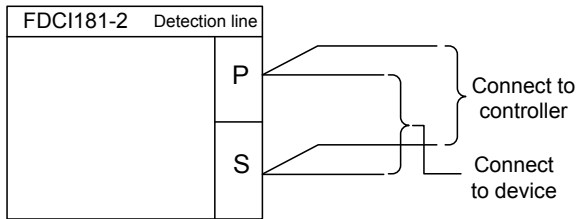

Fig. 5
1. Connect the cables to the terminals according to Fig. 5/6.